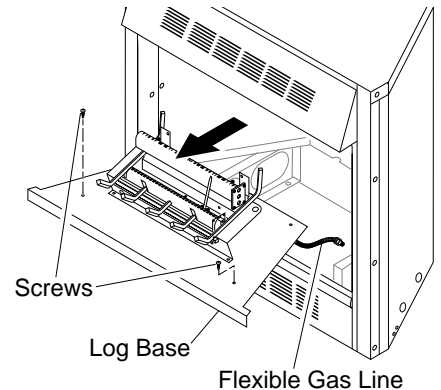

Figure 8 - Removing Log Base from Fireplace
3. Remove screws that attach log base assembly to fireplace (do not discard). Carefully lift up log base assembly and remove from fireplace, taking care to pull flexible gas line through the access holes (see Figure 8).